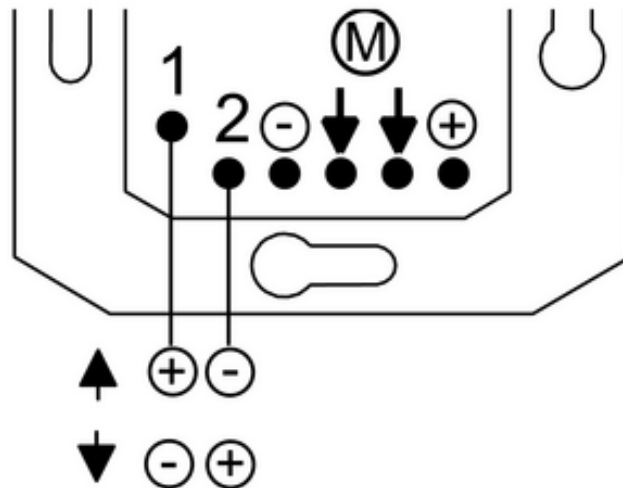

Figure 4: Connection assignment of extension inputs for the corresponding directions of motion
- If necessary connect extension (Figure 4).
The direction of rotation of the shutter motor is determined by the polarity of the two extension inputs. Connection illustration (Figure 4) shows the direction of motion of the blind/shutter for the depicted connection assignments.